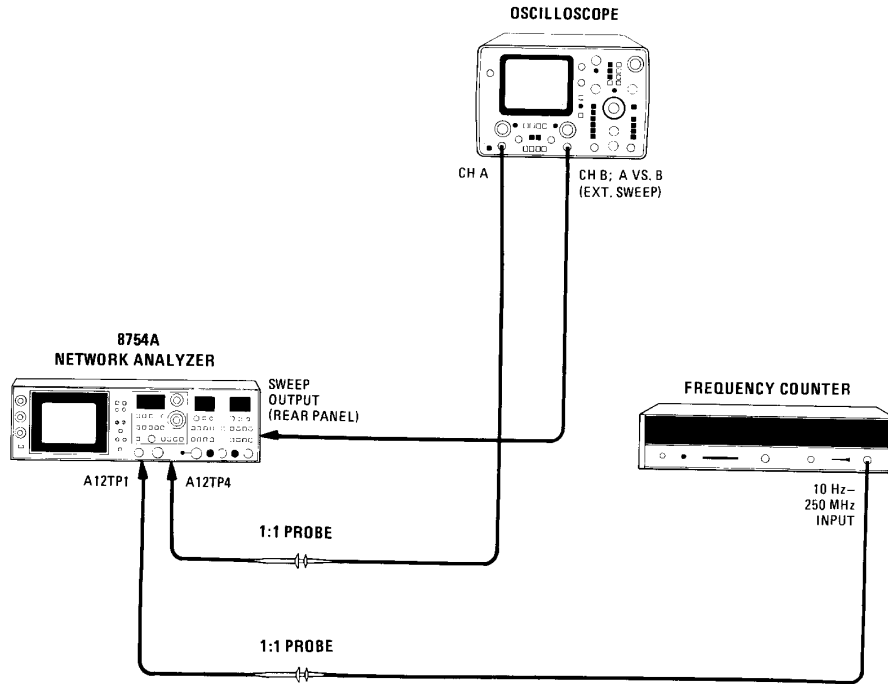

Figure 5-15. Marker Adjustment Test Setup
- a. Connect equipment as shown in Figure 5-15. Connect RF OUTPUT to R INPUT or load RF OUTPUT with a 50-ohm termination.